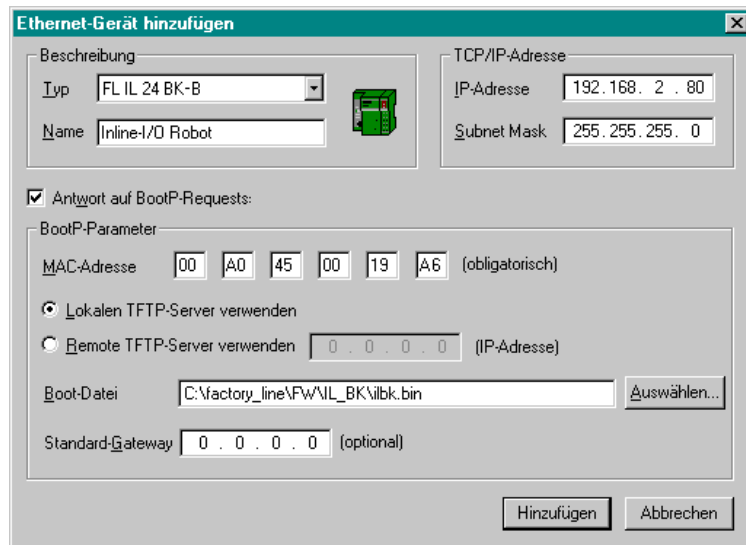

Figure 2-3 Add New Ethernet Device dialog box in the Factory Manager
- Open the Add New Ethernet Device dialog box (see Figure 2-3) by clicking on , by selecting "Add Device" from the Device View context menu or by using the Ctrl+A key combination.
The device now sends another BootP request and receives the specified IP parameters from the BootP server (see Figure 2-3, message highlighted in gray).